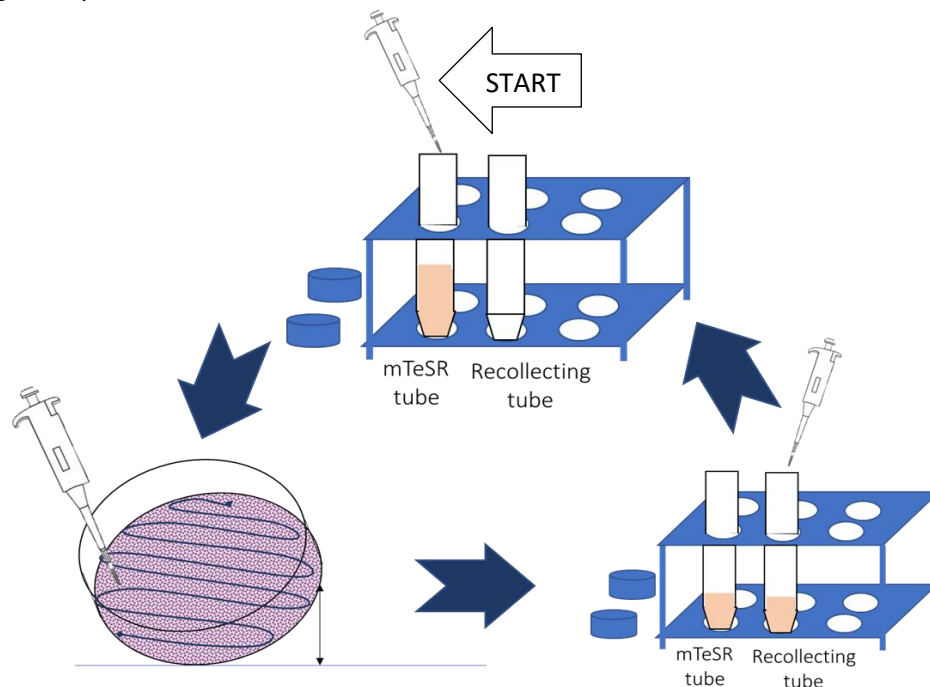

Figure 1. Schematic representation of the splitting process.
6. Lift the iPSC colonies using a 1000µl micropipette. For a well set a 500 µl volume approximately and for the 100mm plate set a 1000 µl volume approximately. To avoid excessive disaggregation of the colonies, if preferable do the lifting in several steps. Use 2mL or 5 mL of the medium separated for the well or plate respectively. To lift and recover colonies start flashing from the proximal part of the plate or well to the distal part until is all empty of colonies (This could be checked in the microscope). (Figure 1).